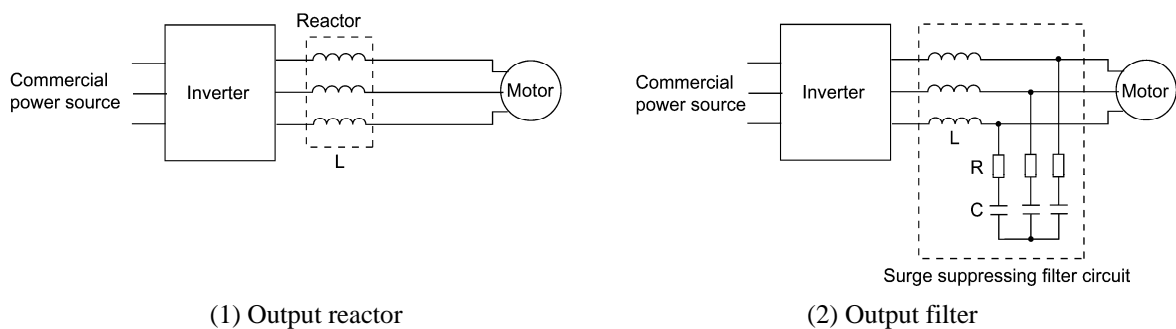

Figure B.3 Method to Suppress Surge Voltage
If wiring length is relatively short, the surge voltages can be suppressed by reducing the voltage rise time ( $dv/dt$ ) with the installation of an AC reactor on the output side of the inverter. (Refer to Figure B.3 (1).)
Installing a filter on the output side of the inverter allows a peak value of the motor terminal voltage to be reduced. (Refer to Figure B.3 (2).)